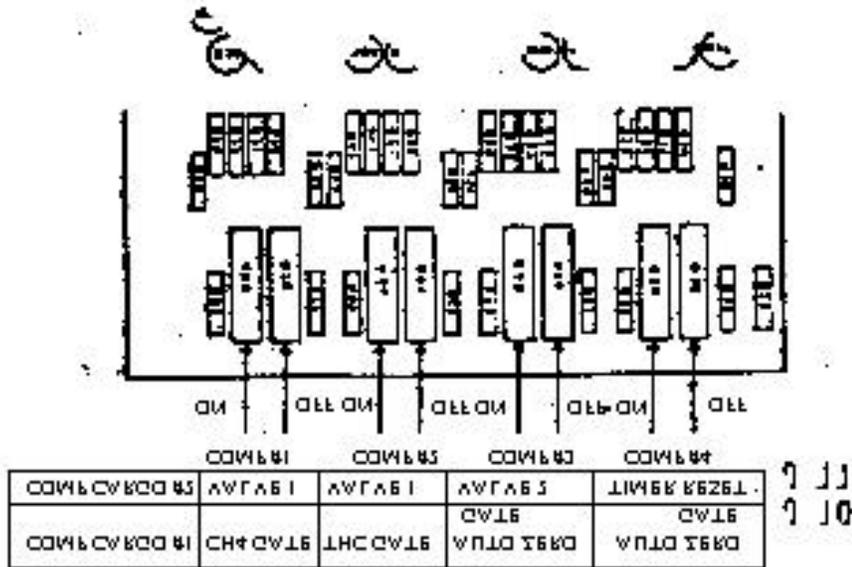
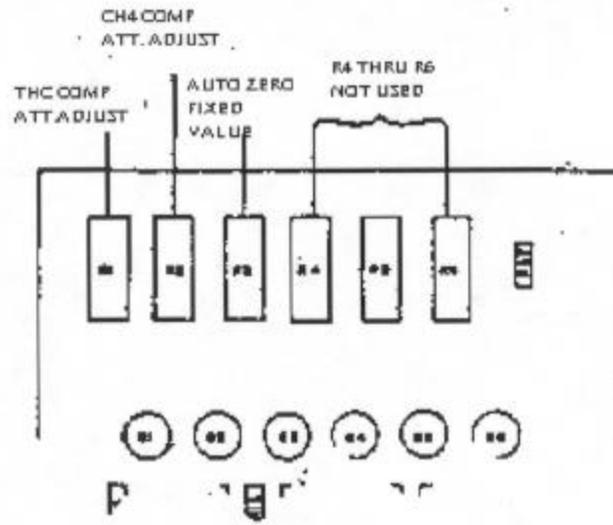

Figure J.1.3.3
Figure J.1.3.4
3. On Figure J.1.3.4, the gate "on" and "off" numbers denote the Manual Cycle Timer dial settings. The valve and component gate adjustments are located on the comparator cards (refer to Figure J.1.1.1 for card location and Figure J.1.3.3 for adjustment pot location). If needed, adjust the valves and gates in the following sequence.
The adjustments for zero and span are on the instrument's front panel, plus a coarse span adjustment for THC and CH₄ on the component attenuator board (Figure J.1.3.4).
- c. Refer to Figure J.1.3.4 for the location of the THC and CH₄ adjustment pots. Adjust the pots so that the recorder reads close to the span gas concentration. One cycle will have to be completed before the adjusted channel will update.